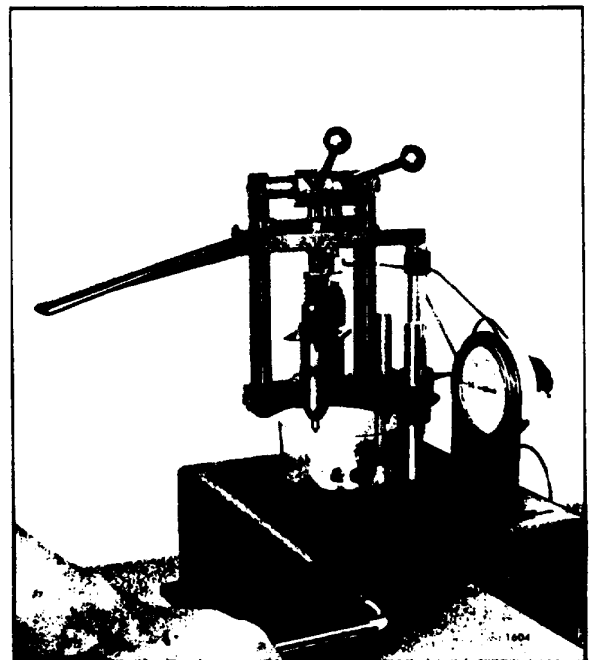

Fig. 9. - Injector High Pressure Test
4. With the injector rack in the full-fuel position and the injector tester handle locked in position by means of the handle lock (Fig. 9.), operate the pump handle to build up and maintain the pressure.